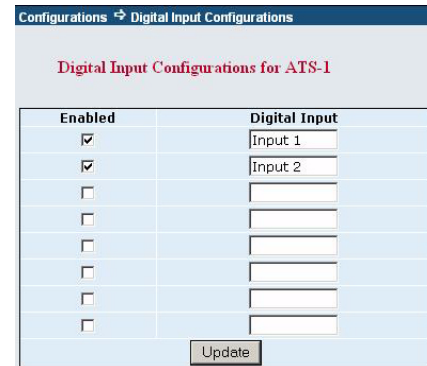

Figure 24: PM Status Input configuration
- Repeat steps 2 and 3 for each PM Status Input that is ACTV (on). The second row is *Status Input 2*, etc. See Figure 24.